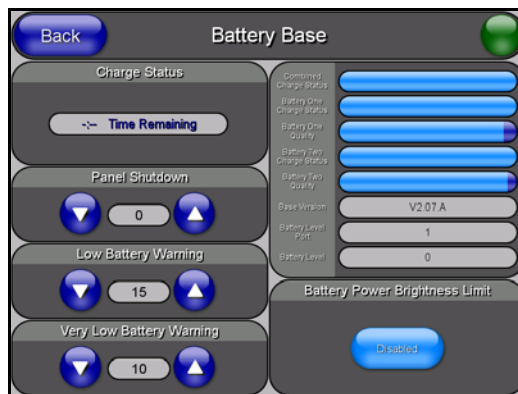

FIG. 97 Battery Base page
3. Press the **Battery Base** button to open the Battery Base page (FIG. 97).